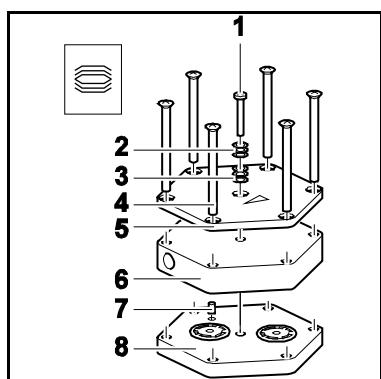

Fig. 10: Refitting pump head
1. On the pneumatic head connection (3), loosen the union nuts (2) by hand. Then slightly loosen the angle-fitting (1) in the pump head (4) by turning it anticlockwise, so that the connecting tube can be pulled out.
2. At both pump heads mark the position of top plate (fig. 10/5), head plate (fig. 10/6), intermediate plate (fig. 10/8) and adapter relatively to each other by a drawing line with a felt-tip pen. This helps to avoid incorrect assembly later.
2. Place the intermediate plate (8) with valve plates/sealings on the adapter in accordance with the felt-tip pen marking.
3. Place the head plate (6) on the intermediate plate (8) in the position indicated by the guide pin (7).
4. Place the top plate (5) on the head plate (6) in accordance with the felt-tip pen marking.
5. Gently tighten screws (4) in diagonal order (tightening torque: N 820: 7 Nm; N 840/842: 8 Nm).
6. Insert screw(s) (1) with disk springs (2, 3) in the center of the top plate (5). In doing so, make sure that the disk springs are arranged properly (see fig. 10).
7. Screw in the screw/screws (1) in the centre of the pump top plate (5) until it is flush with the top plate (they are flush with the top plate); then screw one final half turn to tighten (tightening torque: 25 Ncm).